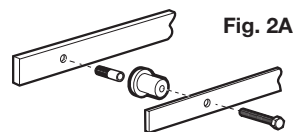

Figure 2A
Drill pilot hole. Insert lag bolt (X) through the first track hole, then place the track spacer (S) through the bolt on back of the track. Install the lag bolt with 1/2" socket ratchet. Do not tighten fully. Swing the track up and use the level to ensure the track is straight. Mark the remaining holes in the track. Drill remaining pilot holes. Slide the stopper (T) onto the track for the end of the track where you installed the first bolt so it is between the first and second holes on that end of the track. Install the next bolt and spacer at this end of the track. Install the remaining bolts and spacers. Go back and fully tighten the first bolt. Slide the remaining stopper onto the other end of the track. Do not set either stopper at this point. Refer to Figures 2A, 2B & 2C.